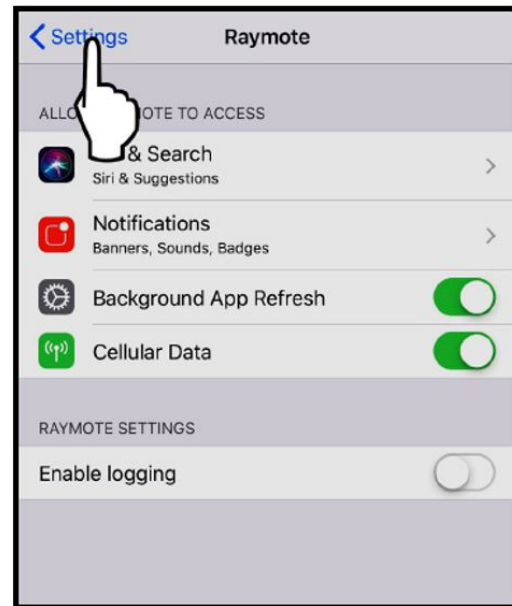

Figure 98. Select "Settings" Menu
5. On the top left corner of the screen, press the "Settings" button to go the Settings menu. See **Figure 98**.